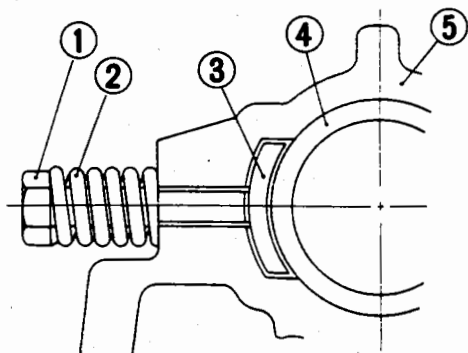

Fig. 95 Installing the friction bolt
9) Adjust the bracket friction bolt so that steering can be carried out smoothly and a straight advance can be made even when you let go of the handle. (Fig. 95)